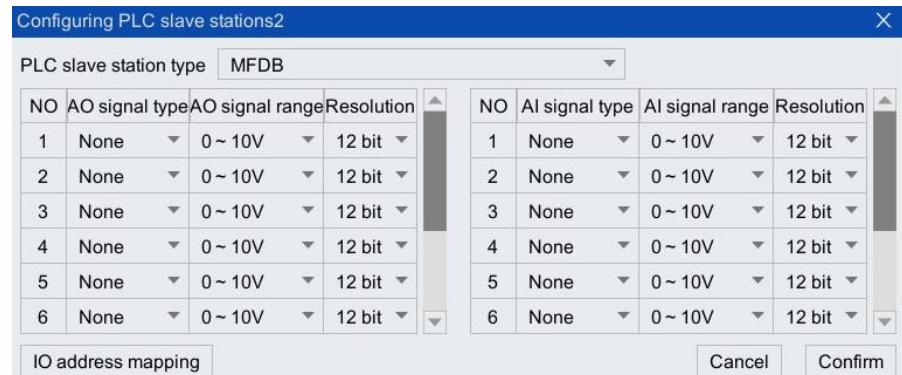
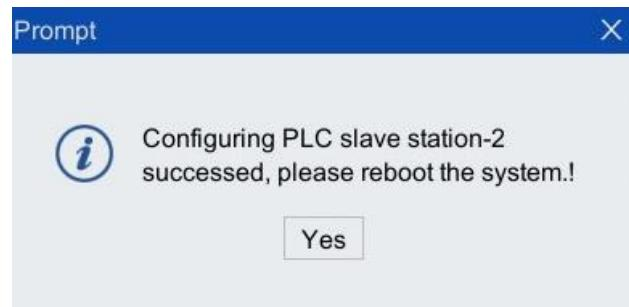

Figure 5-7 Configure PLC slave interface
Figure 5-8 Prompt dialog box
Step3. In the [Configure PLC Slave Station-2] interface, select the matching "PLC Slave Station Type" based on the information in Table 5-3. Figure 5-7 shows the interface for selecting "MFDB".
Step4. After completing the parameter configuration in Figure 5-7, click <Yes>, and a prompt dialog box will pop up (as shown in Figure 5-8). Click <Yes>, and after the power is turned off and restarted, the configuration takes effect. After taking effect, re-enter the [PLC Slave Configuration] interface, and the display will be shown in Figure 5-9.